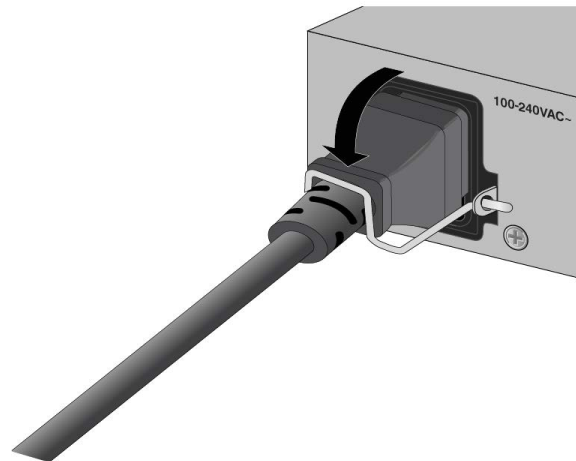

Figure 66. Lowering the Power Cord Retaining Clip
3. Lower the power cord retaining clip to secure the cord to the x320-10GH switch. Refer to Figure 66 on page 127.